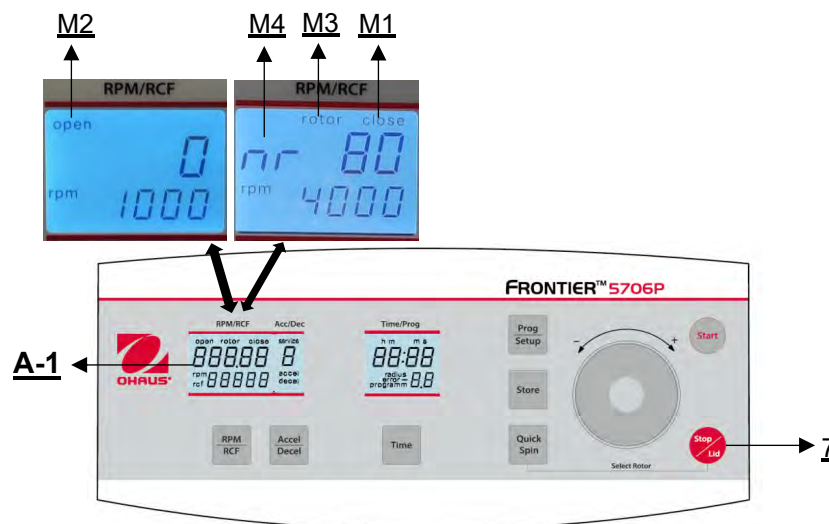

Figure 16
After the run, when the lid of the centrifuge remains closed, the word **"close"** (M1) will continued to appear in the display **"RPM | RCF"** (A-1). At the same time the actual rotor ID, e.g. **"nr 80"**, is shown in the display (M4). As soon as the lid is released by pressing the key **"Stop | Lid"** (7), the word **"open"** (M2) appears. Now you can open the lid of the centrifuge. Please refer to **Figure 16** below for reference.
Please refer to **Figure 16** below for reference.